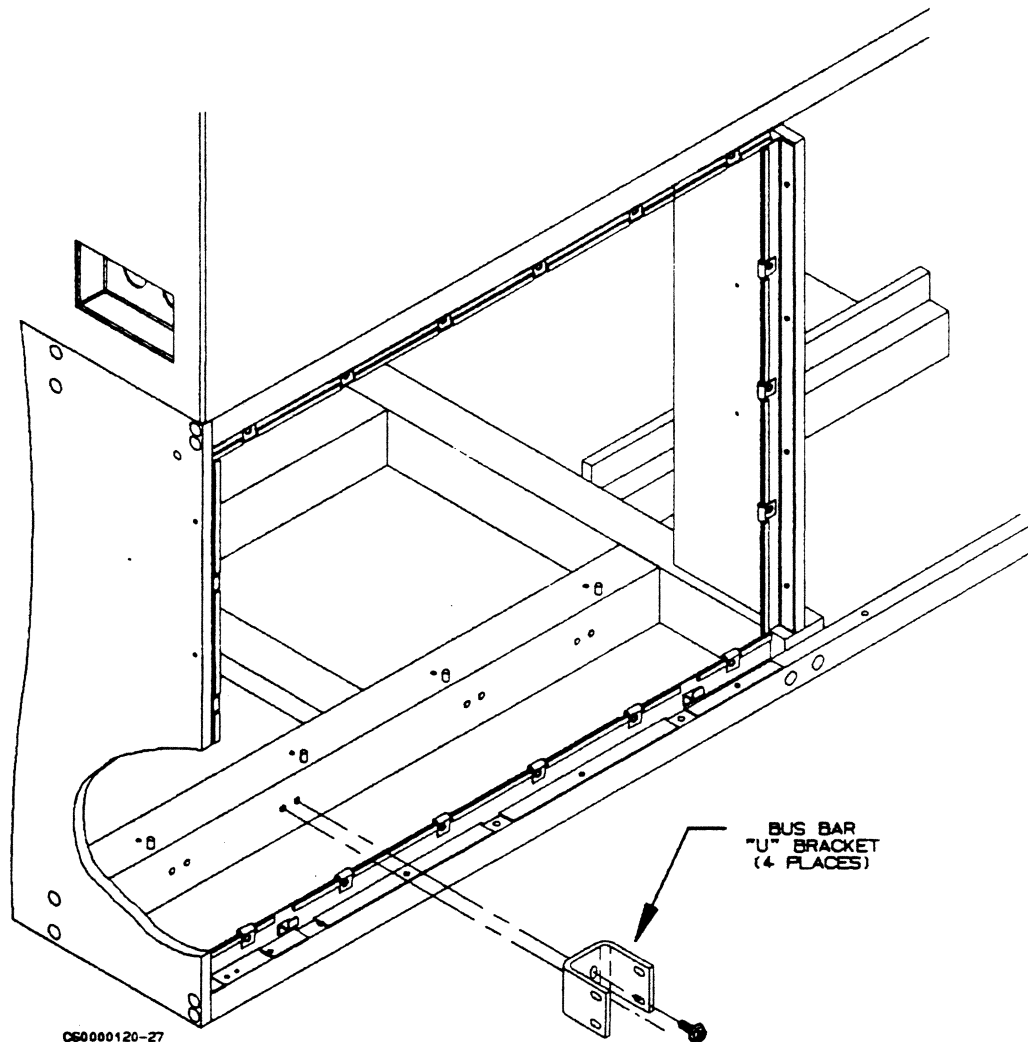

Figure 3-10. Mounting Brackets
- 2. Loosely attach four bus bar mounting "U" brackets (figure 3-10) using hardware in kit #CP1-1. Do not tighten at this time.